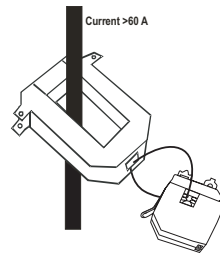

Figure 4: CCM with CT Transformer
Use a 5 A Current Transformer (CT) to reduce the current passing through the CCM as shown in Figure 4. Run the current transformer secondary wire through the sensing hole. Terminate the 2 secondary wires of the 5 A current transformer to each other, and then install the 5 A current transformer on the monitored conductor.